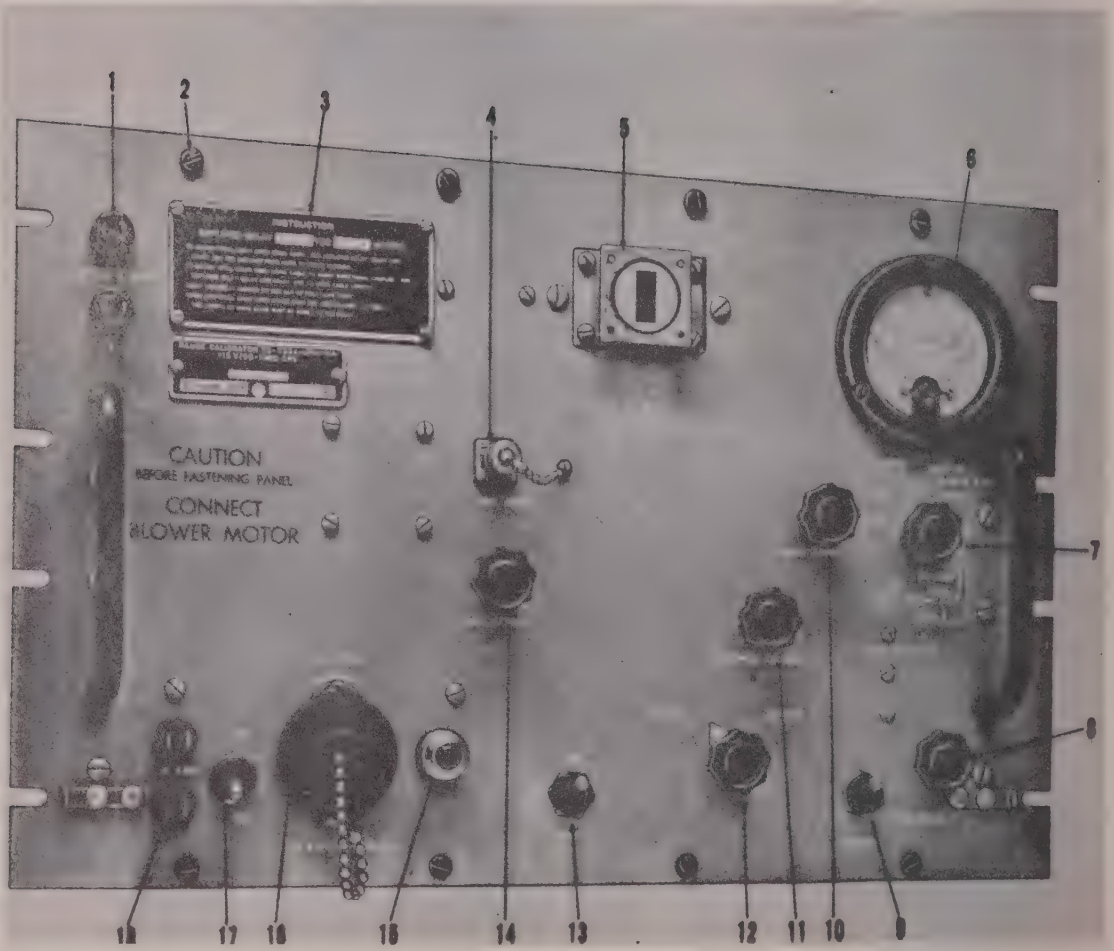

Figure 4-1. Front Panel of Range Calibrator
BEACON operation the delayed 40-mc pulses are generated in the same manner. However, when the RADAR - BEACON switch (12, figure 4-1) is in the BEACON position, the r-f output of the beacon local oscillator tube is fed to the modulator-mixer section of the R-F Assembly. The Beacon AFC Chassis maintains the frequency of the beacon local oscillator tube at the reference-cavity frequency of 9350 mc. Thus, the frequency of the beacon local oscillator fed into the modulator-mixer section is 9350 mc. The mixing action within the modulator-mixer section of the delayed 40-mc signals and the 9350-mc beacon local oscillator again produces sideband-frequency signals which are at 9310 and 9390 mc. The 9310-mc signal is the one corresponding to the X-band beacon signal. Both of these sideband-frequency signals are fed through the TR-tube and out through the waveguide to the radar set. The radar set must be on BEACON function to receive the beacon output of the Range Calibrator. Again, the series of delayed r-f signals appears on the radar scope as a series of artificial targets.
1-29. The radar-beacon switch, E-502, is a mechanical assembly which switches the local oscillator output power to the modulator-mixer. This switch is mechanically linked to the RADAR - BEACON switch, S-104 (12, figure 4-1), on the front panel. It contains a vane which is loaded with polyiron. When the switch is in the RADAR position, the radar local oscillator power from V-503 is fed into the H-plane arm of the modulator mixer. When the switch is in the BEACON position, a load is presented to the radar local oscillator and the output of the beacon local oscillator, V-502, is fed to the modulator-mixer.
1-30. MODULATOR-MIXER. The modulator-mixer is used to convert the delayed 40-mc signals to microwave signals at either the beacon or radar frequency. It is a magic-T mixer assembly with either radar or beacon local oscillator power fed into the H-plane arm of the mixer from the radar-beacon switch, E-502. The delayed 40-mc signals are impressed on the signal modulator crystal, CR-502, a 1N23C. The mixing action is such that the resultant sideband-frequency signals are transmitted out through the E-plane arm of the magic-T, through the TR-tube, and to the output flange of the R-F Assembly. In the other symmetrical arm of the T is the external modulation crystal, CR-501, a 1N23C. This crystal is connected to the external modulation jack, J-108 (4, figure 4-1), on the front panel and is used in conjunction with an external 40-mc pulse to produce a one-way target signal as outlined in paragraph 4-22.
1-39. The action of the phantastron depends upon the negative transconductance which exists between the screen grid and the suppressor grid of a pentode tube. It operates as a free-running sawtooth oscillator. The plate voltage sweeps slowly from just below the plate supply voltage to a point not far from the cathode voltage, after which it snaps back rapidly and starts the downsweep again. The grid-plate time constant is such that the sweep rate is approximately two cycles per second. This sawtooth sweep voltage is applied to the reflector control of the radar local oscillator, causing the radar local oscillator to sweep. The total frequency excursion swept through by the radar local oscillator is approximately 60 mc. The REFLECTOR control, R-118 (8, figure 4-1), on the front panel is used to set the level about which the radar local oscillator sweeps.
1-41. When the radar AFC - MANUAL switch, S-103 (9, figure 4-1), on the front panel is in the MANUAL position the screen of the phantastron, V-207, is connected to -300-volts dc to prevent sweeping. At the same time the d-c level at the plate of V-207 is set to its average sweep level by the bleeder network, R-236 and R-235. This allows the same control, R-118, to be used in both MANUAL and AFC functions to set the repeller voltage of the radar local oscillator.
1-48. The over-all configuration of the broad-band i-f amplifier is a staggered-triple design followed by a broad-band stage with cathode-follower output. V-401, V-402 and V-403 are tuned to 38.8, 40 and 41.2 mc respectively. V-404A is tuned to 40 mc. L-406 is a tuneable coil to obtain the optimum over-all bandpass of the amplifier. V-404B is a cathode-follower stage used to drive the signal modulator crystal, CR-502, in the R-F Assembly. The signal crystal current is metered at the midpoint of R-414 and R-415. The Crystal-current filtering circuit is made up of L-408, C-417 and C-418. The series of amplified output pulses is connected from J-402 to J-502 in the R-F Assembly by coaxial cable. When the I F. SIG. switch, S-105 (13, figure 4-1), is in the OFF position, the +150 volts is removed from the 40-mc amplifier, thereby eliminating the return-echo pulses.
4-6. The power cable assembly, CX-1490/U (2, figure 1-2), should be removed from the transit case and connected to the input power receptacle (16, figure 4-1) on the front panel. The other end of the cord should be connected to a 115-volt, 50 to 800-cps, single-phase power source.
a. Connect waveguide adapter, UG-591/U (5, figure 1-2), to the r-f waveguide output flange (5, figure 4-1), on the Range Calibrator.
a. Connect the antenna horn, FAR-801268-1 (14, figure 1-2), to the r-f waveguide output flange (5, figure 4-1), on the Range Calibrator. The antenna horn as mounted on the Range Calibrator is
4-11. Figure 4-1 shows the operating controls, meter and connectors.
4-13. Turn the power switch, S-101 (17, figure 4-1), to the ON position. The indicator lamp (15, figure 4-1), should light. For maximum accuracy the equipment should be allowed to warm up for 20 minutes. At ambient temperatures below -30°C (-22°F), warm-up time should be 30 minutes. This warm-up time is required to stabilize the temperature of the ultrasonic delay line.
4-15. The METER SELECTOR switch (7, figure 4-1), should be used to check the power supply voltages. The +300-volt supply should be within 5 volts of the nominal value. R-113 is used to adjust this voltage. The control is located in the lower left hand corner of the power-supply chassis. The other voltages are not critical and should be within 10 volts of the nominal value. The TR voltage should be within 50 volts of the nominal -900 volts. This completes the voltage check-out.
1. METER SELECTOR (7, figure 4-1): SIG. XTAL.
2. L. O. COARSE TUNING (11, figure 4-1): Rotate approximately 2 turns from full clockwise position.
3. L. O. ATTEN (14, figure 4-1): Rotate approximately 4 turns from full clockwise position.
4. REFLECTOR (8, figure 4-1): Rotate to full counterclockwise position.
5. I. F. SIG (13, figure 4-1): ON.
6. RADAR - BEACON (12, figure 4-1): RADAR.
7. A. F. C. - MANUAL (9, figure 4-1): MANUAL.
1. METER SELECTOR (7, figure 4-1): Either RADAR A. F. C. XTAL 1 or RADAR A. F. C. XTAL 2.
2. RADAR - BEACON (12, figure 4-1): RADAR.
3. A. F. C. - MANUAL (9, figure 4-1): A. F. C.
4. I. F. SIG (12, figure 4-1): ON.
4-21. For checking the beacon circuitry of the radar, it is necessary that the Range Calibrator be locked-on to the radar as outlined above. When lock-on has been accomplished, the RADAR - BEACON switch (12, figure 4-1) is placed in the BEACON position. When the radar set is switched to beacon operation, the return-echo pulses will appear on the radar indicator.
4-23. It may sometimes be desirable to add external modulation to the output pulses of the Range Calibrator. External sine wave or noise modulation may be injected into the Range Calibrator through the EXT. MOD. jack, J-108 (4, figure 4-1), on the front panel. This modulation is impressed across the external modulation crystal, CR-501, in the R-F Assembly. This crystal is terminated in 110 ohms (R-129) at the front panel.
b. The I. F. SIG. switch (13, figure 4-1), should be placed in the OFF position. This eliminates the echo pulses fed back to the radar from the ultrasonic delay line.
d. A single echo pulse should appear on the radar. It may be necessary to place the MANUAL - A. F. C. switch (9, figure 4-1), in the MANUAL position and adjust the REFLECTOR control (8, figure 4-1), slightly before the echo pulse appears.
4-34. The Range Calibrator may be placed in standby condition by turning the power switch (17, figure 4-1) to the OFF position and leaving the power cord (2, figure 1-2) connected to the primary power source. This removes voltage from the set and applies voltage to the heater strip in the fan-deck assembly, thus maintaining the Range Calibrator at a temperature above ambient.
a. Turn the power switch (17, figure 4-1) to the OFF position.